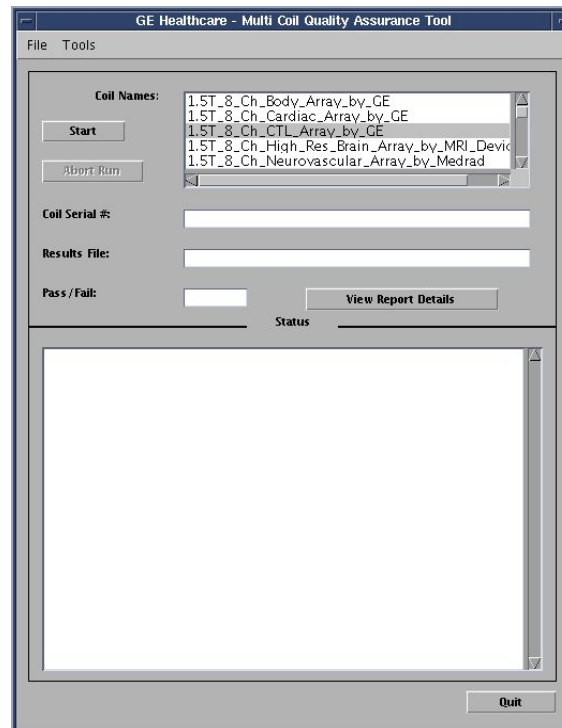

Figure 1: MCQA starting window.
- You will see a window with a list of available coils (Figure 1).